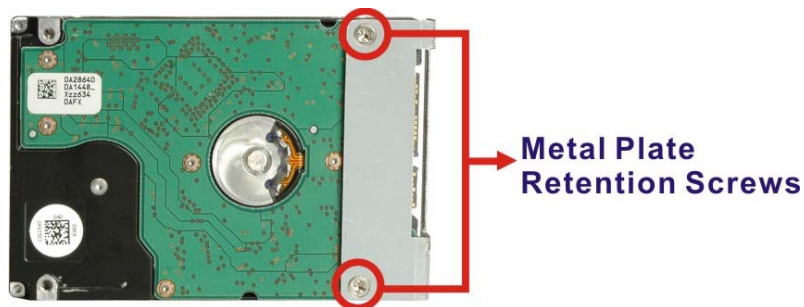

Figure 4-7: SATA Cable Metal Plate Installation
Step 4: Install the metal plate for securing SATA cable. Align the retention screw holes on the metal plate with the two retention screw holes near the connector side on the bottom of the HDD. Insert two retention screws to secure the metal plate with the HDD (Figure 4-7).